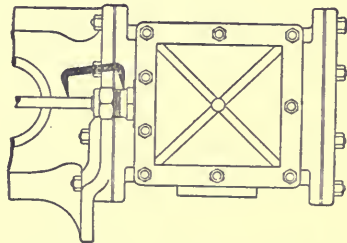

FIG. 31. TRAM ON VALVE-STEM.
Besides the marks on the eccentric, there are marks on the valve-stem and its stuffing-box, in order to make apparent any change in the length of the valve-rod or the eccentric-rod. To use these marks, however, one should have one of the Company's valve-rod trams. This is shorter than the one used on the crank-disc and measures exactly four and three-sixteenths inches between points. It is used as shown in Fig. 31. There are two marks on the valve-stem and they should be on top. When the reverse lever is at the rear end of the quadrant, (i. e., the road motion), and the engine is placed on one of its dead centers, the valve-rod tram should drop into one of the marks,
*First. Length of Reach-Rod.* See that the "reach-rod" from the "reverse-lever" to the "block-guide" is of such length that the valve moves the same distance during a revolution of the fly-wheel in one direction as for a revolution in the opposite direction, with the reverse-lever in the corresponding end notch of the quadrant in both cases. The entire distance the valve moves, which is called the "valve travel," may be conveniently measured on the valve stem by the tram, as illustrated in Fig. 31, or by a pair of dividers or compasses. To do this hold one of the tram points in the punch-mark on the stuffing-box and, with the other, make scratches across the rod as the fly-wheel is slowly revolved. If the "valve travel" be more for one motion than for the other, it shows that the reach-rod is either too long or too short to give the proper angularity to the block-guide, which angularity determines the travel of the valve. This rod can be easily adjusted to the correct length by taking the pin out of the